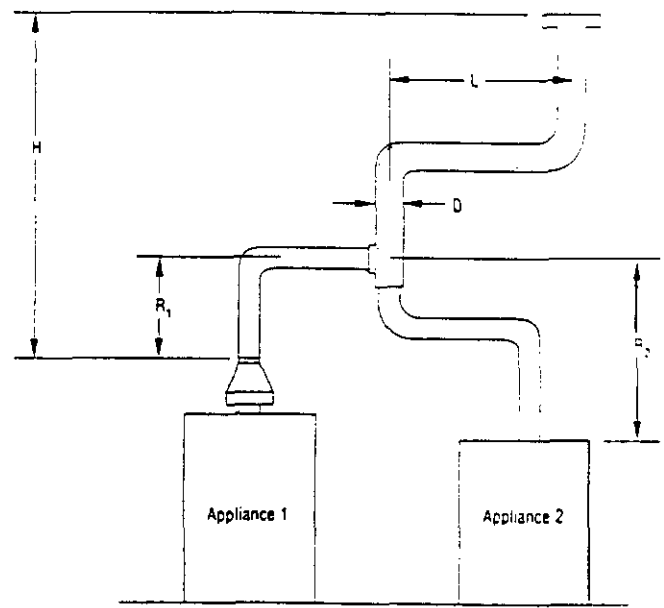

FIGURE 8
- 6) If the common vertical vent is offset as shown in Figure 8, the maximum common vent capacity listed in the common venting tables should be reduced by 20%, the equivalent of 2 (two) 90° elbows (0.80 x maximum common vent capacity). The horizontal length of the offset shall not exceed 1 1/2 feet for each inch of common vent diameter.